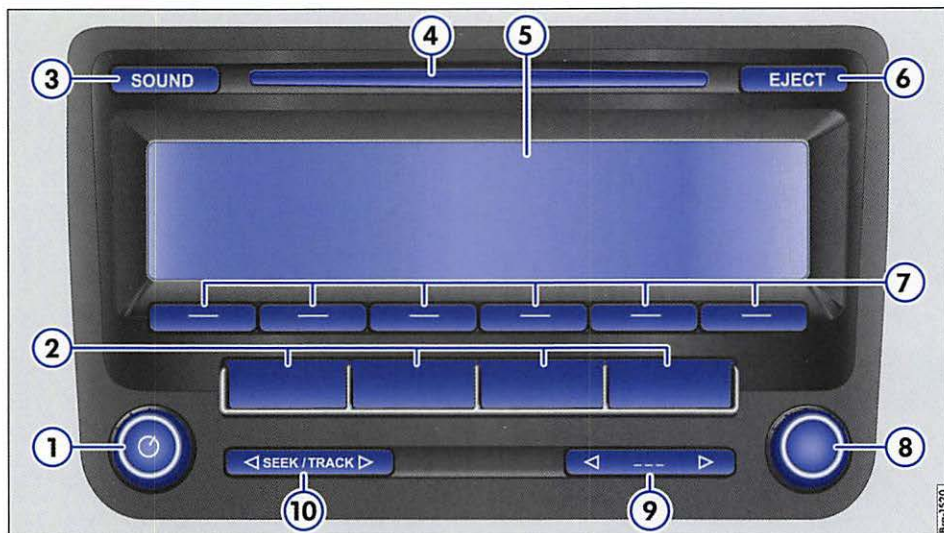

Fig. 1 Overview of the controls.
There are various versions of the RCD 310 that may have different key labels. The keys are shown without labels in the figure (in fig. 1: ② and ⑨).
① Rotary and push button
② Device keys: Press a device key to access a function. Labels and functions depend on the device variant.
The left rotary and push button ⇒ fig. 1  is designated Volume control  or On-Off switch.
The right rotary and push button ⇒ fig. 1  is the adjustment knob.
The labeled keys on the device are called "device keys" and are displayed as key icon with content in blue, such as the device key  ⇒ fig. 1.
Below the screen are six unlabeled device keys ⇒ fig. 1 . These device keys are called "function keys" because their function changes depending on the operating mode selected.
Switching device On or Off manually.	⏻ ⇒ fig. 1 Briefly press the rotary and push button. When ignition key is removed, the device switches off automatically after about 30 minutes (time out).
Increase volume.	Turn the volume control ⏻ ⇒ fig. 1 right or press the button  on the multifunction steering wheel ⇒ booklet Operating Instructions , chapter Vehicle Overview .
Different versions of the radio system are shipped, depending on the country of delivery and the configuration. All variants are listed in the device overview $\Rightarrow$ fig. 1.